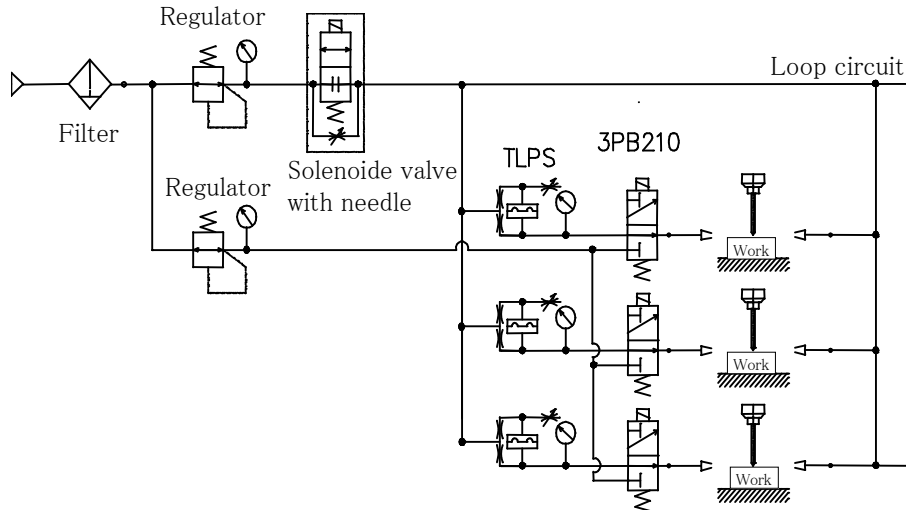

Figure 2 Using 3-way valve for blow
- 7) Cutting or grinder chips may block the nozzle. An increase in the supply pressure will not be able to blow the chips off because the internal orifice will choke the flow. To enable the blow-off, install a 3-way valve to the detection port side as in Fig. 2. The orifice of the 3-way valve has to be 2.5 mm or larger in diameter.
where a 3-, 4- or 5-way valve is used, make arrangements so that each nozzle injection amount is as uniform as possible. The branching method is as shown in Fig. 2 above: form the loop circuit with this piping 8 mm in outside diameter and 6 mm in inside diameter.